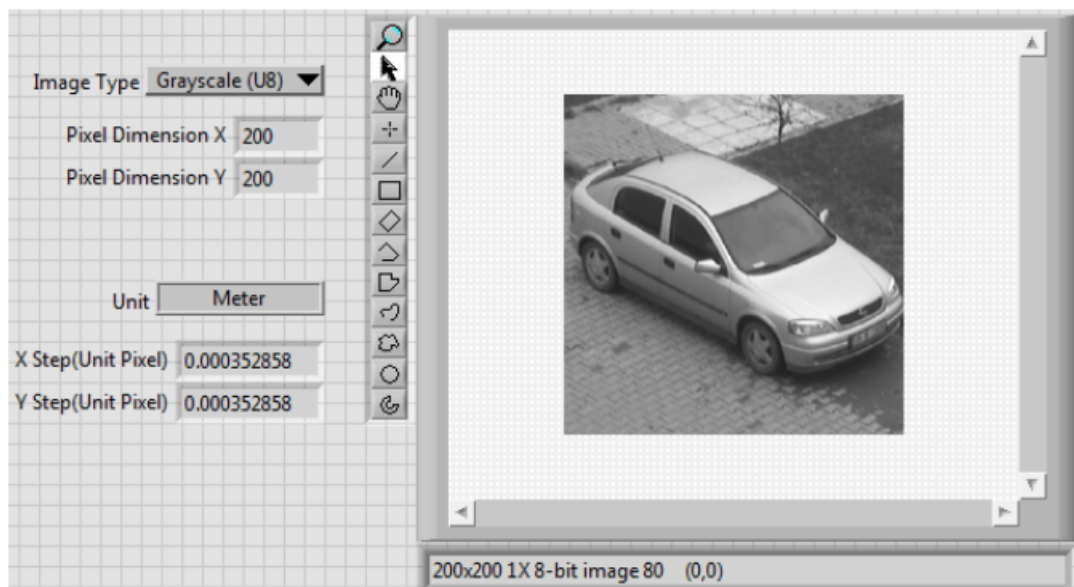

Figure 4: Front Panel of Exercise 1
1. We aim to create a **Front Panel** as illustrated in **Figure 4**. First, right click empty space in the **Front Panel** window, from **Control>>Vision**, place an **Image Display**. Tips: you can also use the **search bar** to find the block.